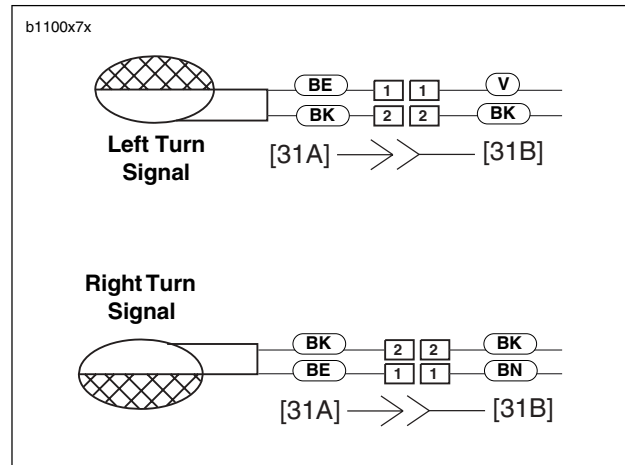

Figure 7-48. Front Turn Signal Connections
2. See Figure 7-48. Disconnect bullet connectors on turn signal wires.